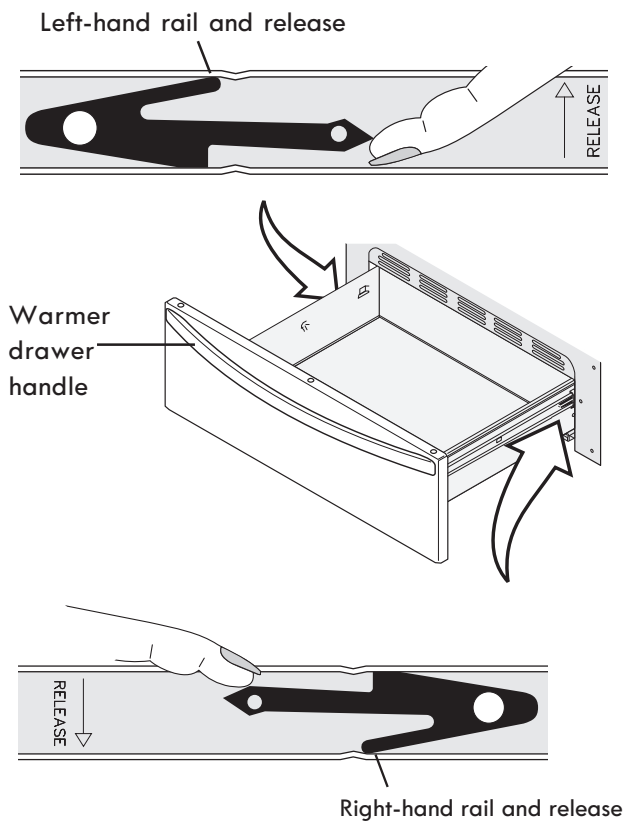

Figure 34: Removing the warmer drawer
3. On left warmer drawer rail, locate black release lever and press up with finger while pulling out slightly on the oven drawer handle. On right warmer drawer rail, locate black release lever and press down with finger while pulling out slightly on the warmer drawer handle (See Figure 34).